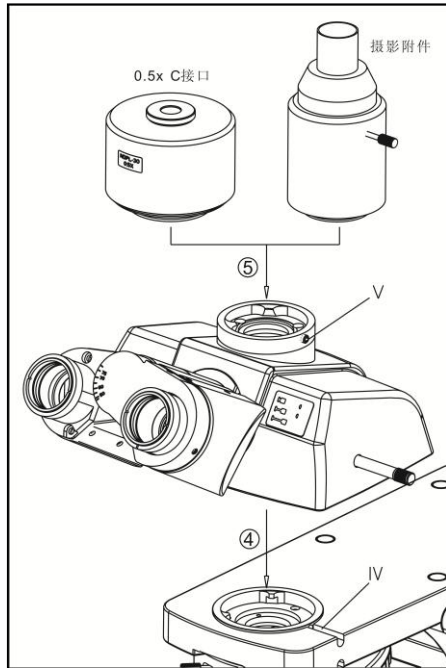

Fig 6
4-2-4 Install Camera Lens And Photo Acc /0.5X C-mount(fig 6)
Install camera lens into the microscope groove according to the path ④ shown in the figure 6, then use hex wrench tight up the bolt shown as IV and fix the camera lens.
Accord the path of ⑤ shown in figure 6 to insert the trinocular viewing unit into the microscope head. Then use the hex wrench screw the fixed bolt shown as V.